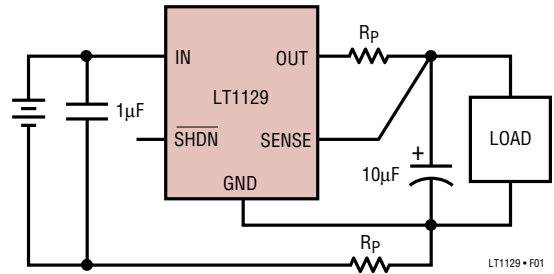

Figure 1. Kelvin Sense Connection
**Sense Pin:** For fixed voltage versions of the LT1129 (LT1129-3.3, LT1129-5) the sense pin is the input to the error amplifier. Optimum regulation will be obtained at the point where the sense pin is connected to the output pin. For most applications the sense pin is connected directly to the output pin at the regulator. In critical applications small voltage drops caused by the resistance ( $R_P$ ) of PC traces between the regulator and the load, which would normally degrade regulation, may be eliminated by connecting the sense pin to the output pin at the load as shown in Figure 1 (Kelvin Sense Connection). Note that the voltage drop across the external PC traces will add to the dropout voltage of the regulator. The sense pin bias current is 15μA at the nominal regulated output voltage. This pin is internally clamped to –0.6V (one  $V_{BE}$ ).